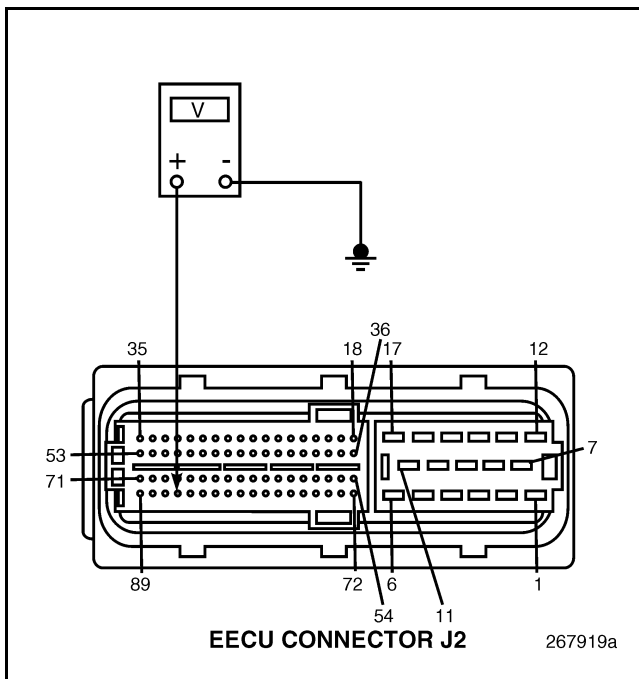

Figure 158
5. Measure the voltage between EECU harness connector J2 pin 86 and a good ground (see Figure 158).